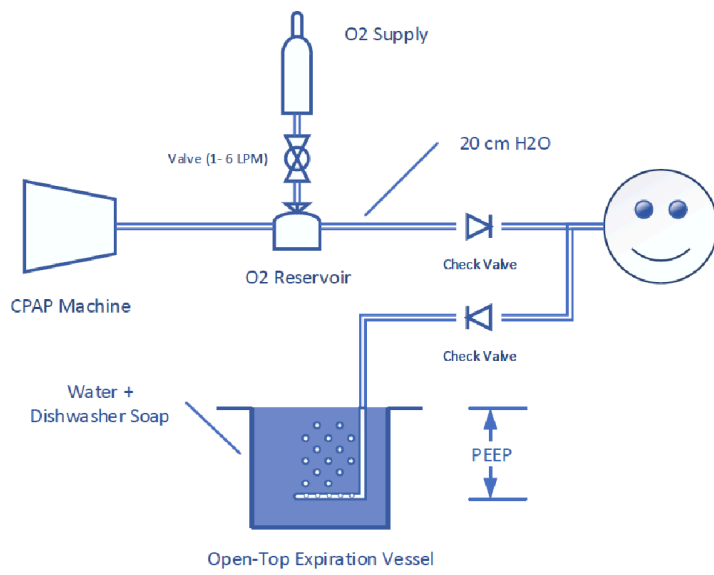

Figure 1, enhanced CPAP with PEEP and Oxygen
**Modified CPAP** Our first concept (see a working model in the cited video) is a modified CPAP machine that may help people at home or to get out of the ICU. The inhalation and exhalation circuits are separate. Check valves are used to prevent mixing of the fresh and exhaled air. It uses an oxygen fortified CPAP or Bipap machine with a pipe in a bucket filled with water for exhalation resistance (positive expiratory ending pressure aka PEEP). Capture of the exhaled breath under water prevents the virus from escaping into the room. Dishwasher soap and/or bleach in the bucket kills the virus without foaming up. This needs a source for masks (maybe thermoformed or 3d printed, or adapted from painting respirators. (See figure 1.) This system could be used: